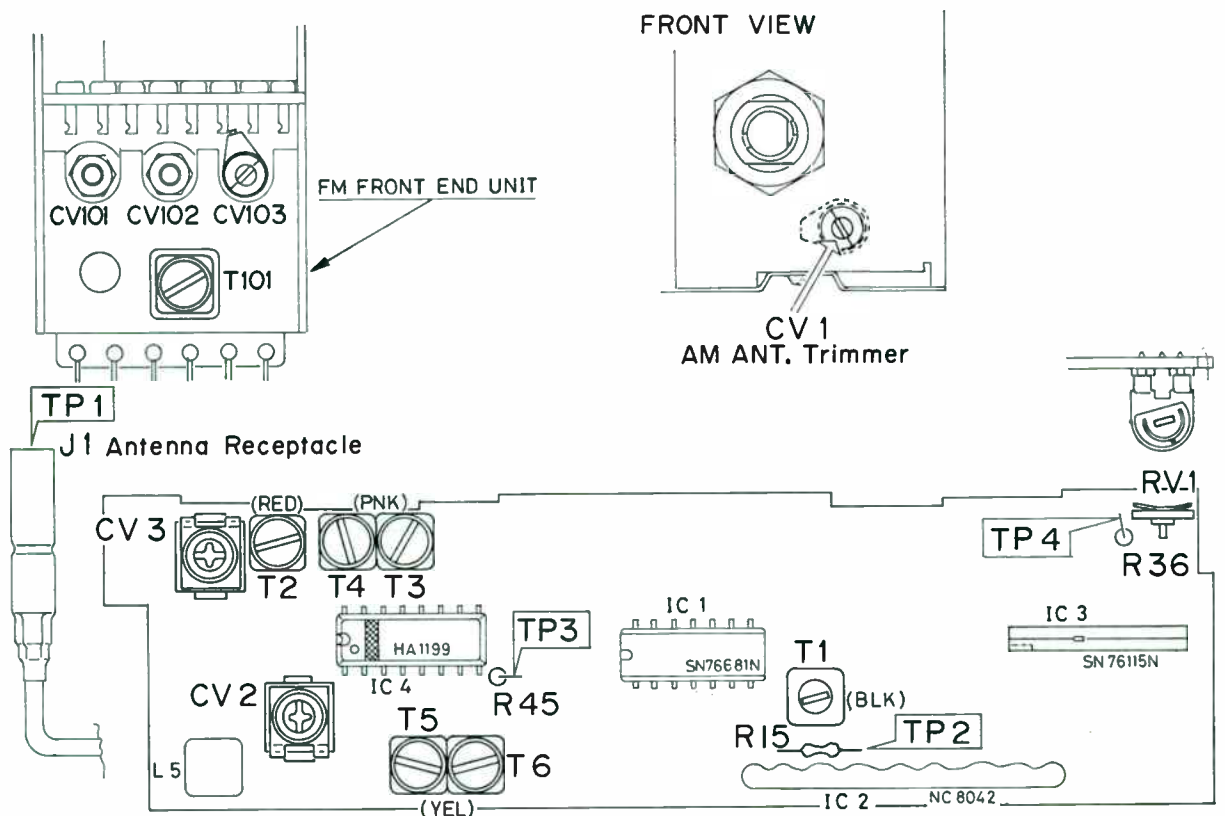

Fig. 11 ADJUSTMENT POINTS
| Connect [TP1] in Fig. 11 through 0.01 µF capacitor | Connect [TP3] in Fig. 11 through 27k-ohm resistor | Connect with HORIZONTAL terminal of sweep generator |
(2) Alignments (Refer to Fig. 11 for ADJUST POINTS.)
(2) Alignment (Refer to Fig. 11 for ADJUST POINTS.)
| Connect TP1 in Fig. 11 through 001 μ F capacitor | Connect TP2 in Fig. 11 through 27k-ohm resistor | Connect with HORIZONTAL terminal of sweep generator |
[2] Tracking alignment (Refer to Fig. 11 for ADJUST POINTS.)
(2) Alignment (Refer to Fig. 11 for ADJUST POINTS)
(1) Alignment (Refer to Fig. 11 for ADJUSTMENT POINTS)
Connect frequency counter to TP₄ as per Fig. 11 and adjust RV₁ so that the counter frequency becomes 19 kHz ± 100 Hz.